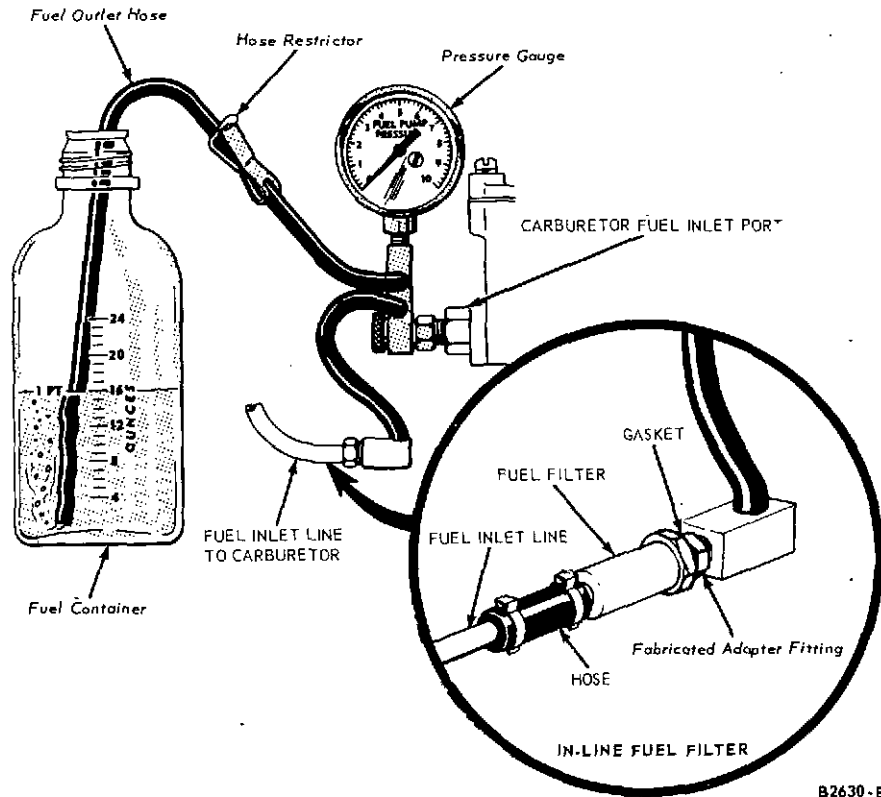

FIG. 3 Typical Fuel Pump Pressure and Capacity Test Equipment
2. Connect a pressure gauge, a restrictor and a flexible hose (Figure 3) between the fuel filter and the carburetor. **NOTE: Inside diameter of smallest passage in test flow circuit must not be smaller than .220.**
3. Position the flexible fuel outlet hose and the restrictor so the fuel can be discharged into a suitable, graduated container (Figure 3).
2. Open the hose restrictor and expel the fuel into the container (Figure 3), while observing the time required to expel one pint. Close the restrictor. One pint or more of fuel should be expelled within the specified time limit.